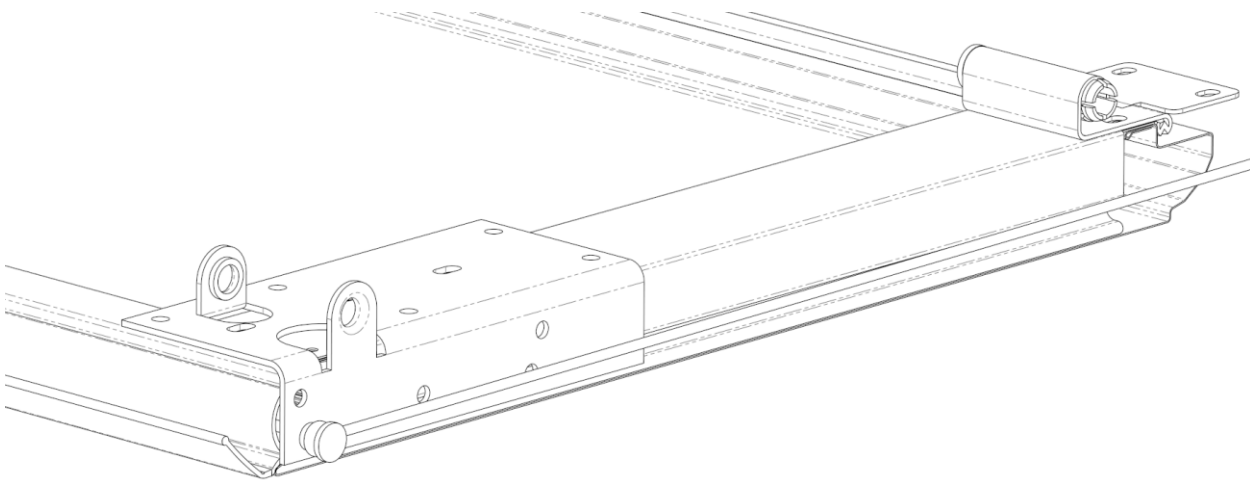

Figure 6
- b. Attach bottom cable brackets to each bottom corner using metal screws (Figure 6)